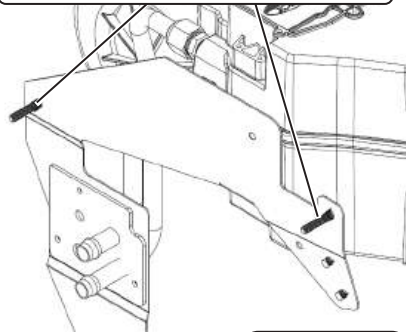

Figure 2
8. Install (2) 1/4-20 full-threaded studs in the specified locations to help with alignment (See Figure 2, below). **NOTE: The Allen head of the full-length stud should be installed where it can be removed with an Allen wrench later when they are replaced.**